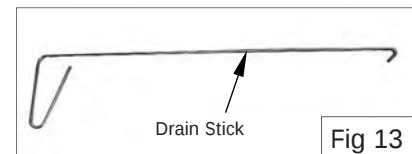

Fig 13
7. If necessary, use the drain stick (see Fig 13) to dislodge any blockages in the drain.